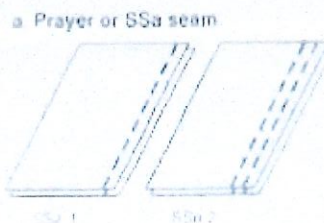

Figure 2. SS types
The most common practice is superimposed seams (SS), whereby two sections of fabric are placed together and joined with one or more rows of stitching (Figure 2). Prayer or SSa seam (Figure 2) is the easiest to form and it also requires the least manipulation of the geotextile.
Hand-held sewing machines are very common for on-site sewing and it is usually sewn with one or two rows of stitching. As shown in Figure 2, the SS designation may be appended with the number of stitch rows to provide a complete description of the seam type.